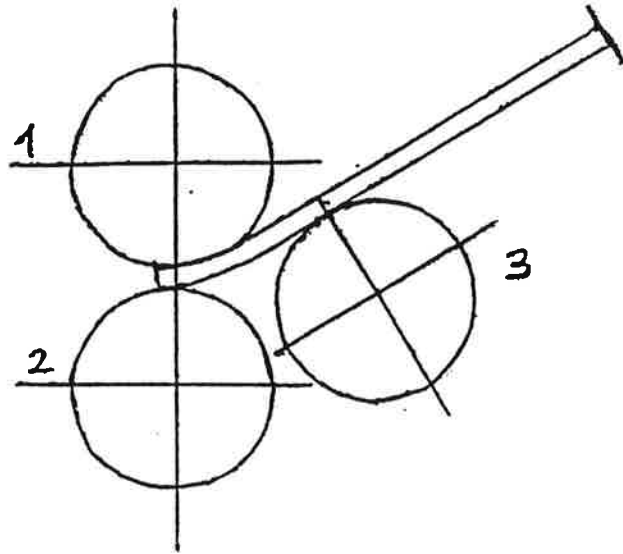

Figure 2
- 4) After the sheet is placed, roll number 2 is moved upward to clamp the sheet. (Figure 2)